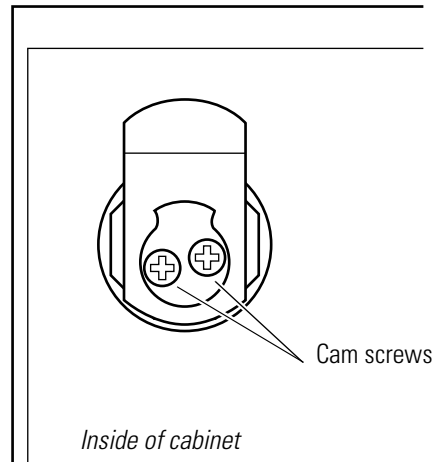

Figure 5.18 Reinstalling the cabinet cylinder (5E Series cylinder assembly shown)
6. Secure the two cam screws to the back of the cylinder assembly. See Figure 5.18.